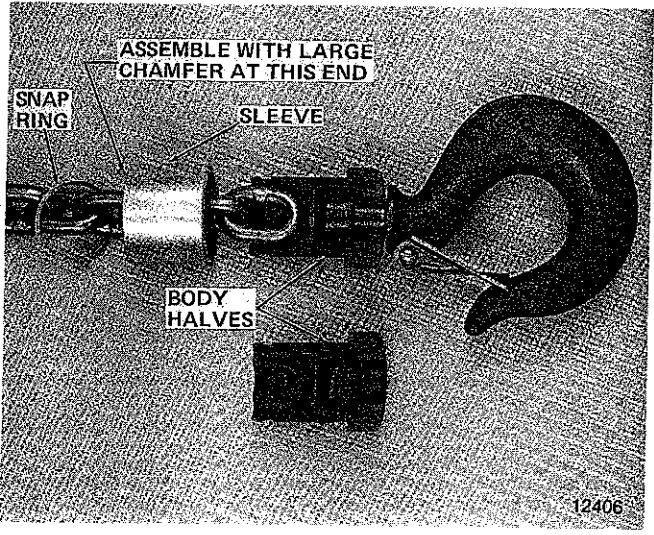
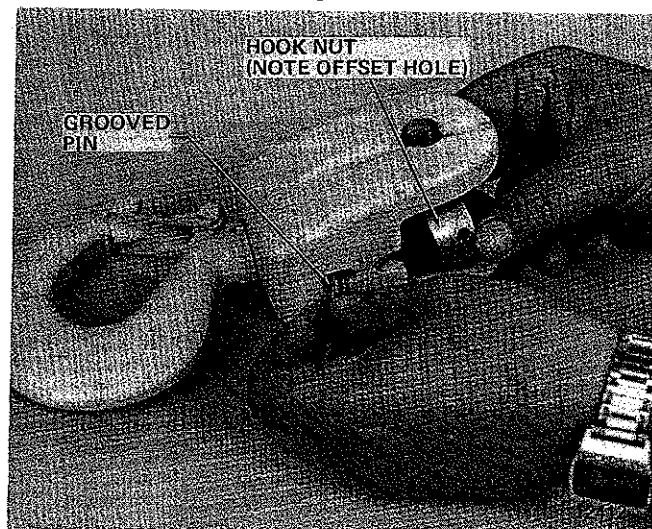

Figure 6-1. Lower Hook Connection — 1-1/2 Ton Model Hoists
Figure 6-7. Installing Hook and Nut in Lower Block
a. To remove hook from end of load chain, remove snap ring at top of sleeve, slide sleeve from body halves and separate parts. See Figure 6-1.
When installing lower hook be certain original nut is used. Also, nut must be positioned as shown in Figure 6-7. The nut side with the greater distance to center of hole should face the hook. When installing sleeve on 1-1/2 ton model, be certain large chamfer in one end is positioned as noted in Figure 6-1.